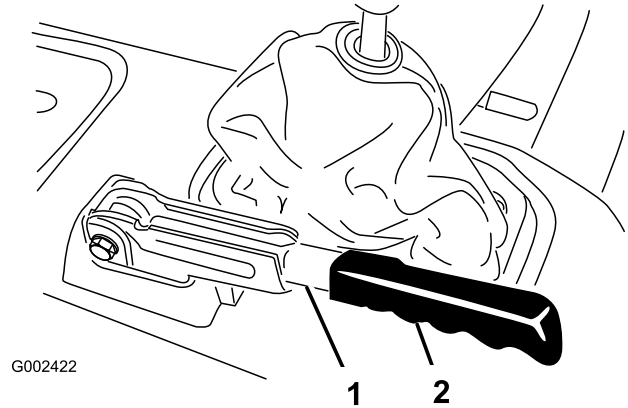

Figure 62
1. Remove the rubber grip from the parking-brake lever (Figure 62).